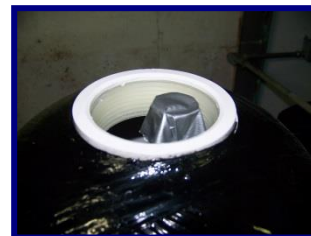

Figure 8: How to Block Distributer Tube
- c. Cover the exposed end of the distributor risers to make sure no resin gets inside the tube. Covering up the risers with duct tape is one option, shown in Figure 8.